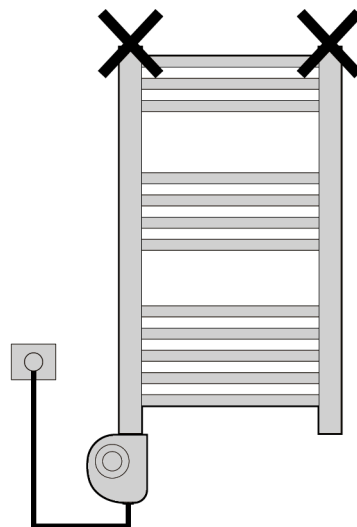

Figure 6
- The electrical towel rail must not be installed with the regulator located at the top (see Fig. 6). This can seriously damage the control box and create a dangerous situation with a risk of fire.